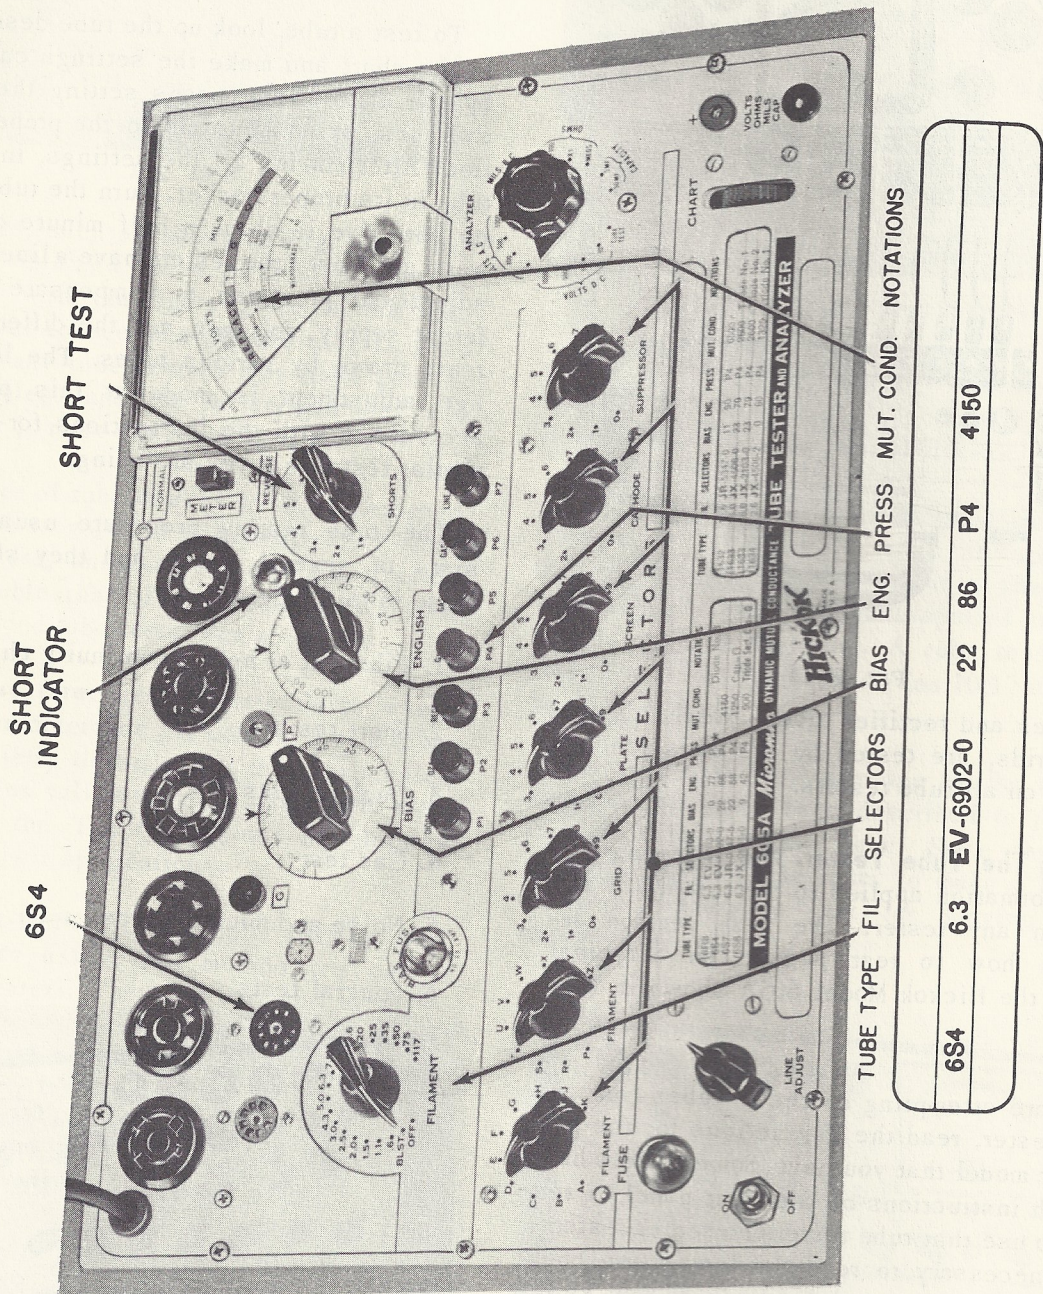

Fig. 10-13
2. Turn the roller chart until the data for 6S4 type tube is visible. An enlargement of this portion of the roller chart and the engraved labels which appear on the case is shown at the bottom of Fig. 10-13.
3. The 6S4 is a miniature glass tube requiring a filament supply of 6.3 volts. This is shown by the first column of the chart, under the heading FIL. Set the FILAMENT knob of the tester to 6.3. The location of the controls corresponding to each column of the roller chart are indicated on Fig. 10-13 by arrows connecting the roller chart label to the corresponding control.